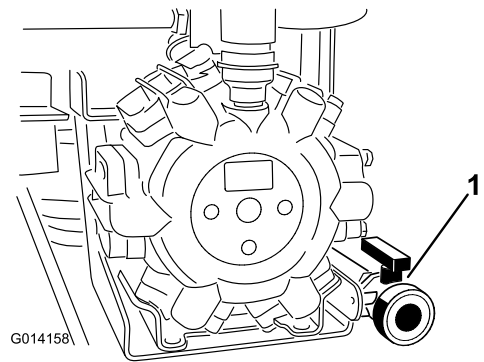

Figure 22
2. Locate the tank drain valve on the rear of the machine (Figure 22). The valve is to the rear of pump, attached to the support bracket.